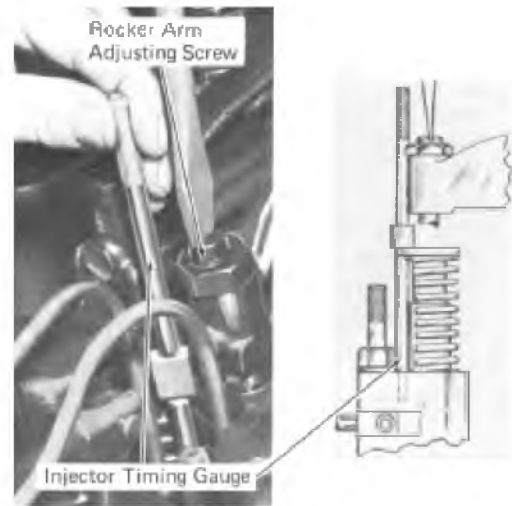

Fig. 11-6-Timing Injector
2. Insert injector timing gauge into the hole provided for it in the injector body, Fig. 11-6.